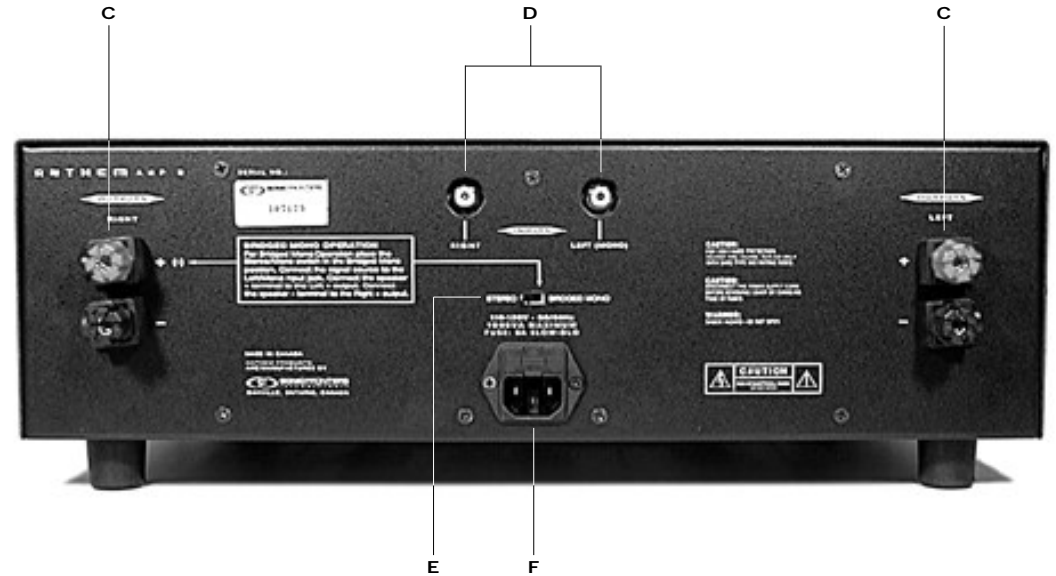

FIGURE 2 Amp 2 rear panel.
Plug the Detachable Power Cord into this socket (see Figure 2). The Amp 2 is factory set for the correct operating voltage for the area in which it is sold (see shipping box for voltage setting). If a different operating voltage is required, please contact an authorized Sonic Frontiers or Anthem dealer, distributor or the factory directly.
3. Noting the location of the tube sockets in the top view photo, inspect the tubes for corresponding labels and markings. Once locations are mapped, take a tube and inspect the pins, noting the larger space between two of the pins (see Figure 2). This space will match with the socket. Insert each tube into the appropriate tube socket, making sure all pins and pin holes are aligned. Do not force the tubes into the sockets. "Rock" the tubes gently while pushing slowly until each tube is firmly seated.